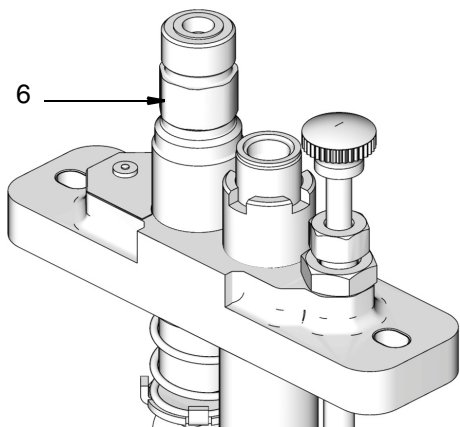

FIG. 8
2. Connect lube line to pump outlet (6), (FIG. 8)(also see pages 15 and 16).